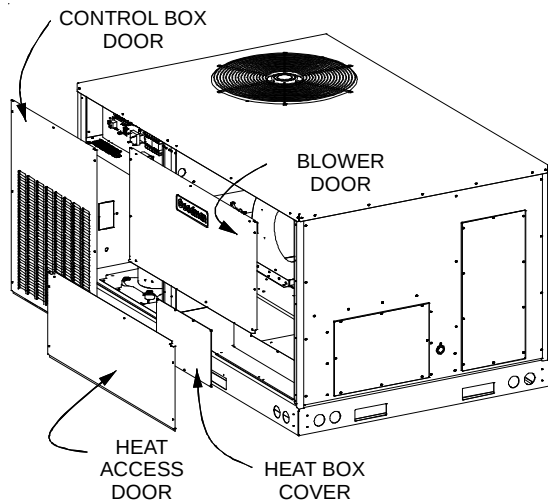

Figure 7
5. Locate heater box. Remove screws holding the heater box cover in place (Figure 7).